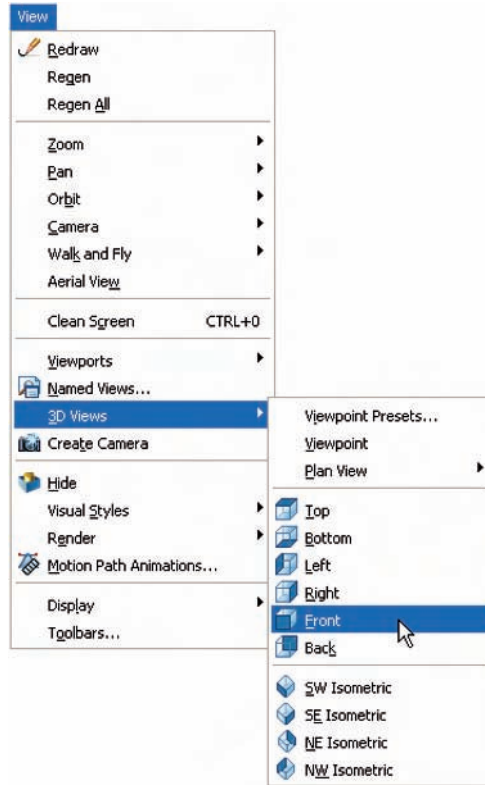

Fig. 13.15 Calling **Front** from the **3D Views** sub-menu of the **View** drop-down menu
1. Place the screen in the **3D Views/Front** view from the **View** drop-down menu (Fig. 13.15).